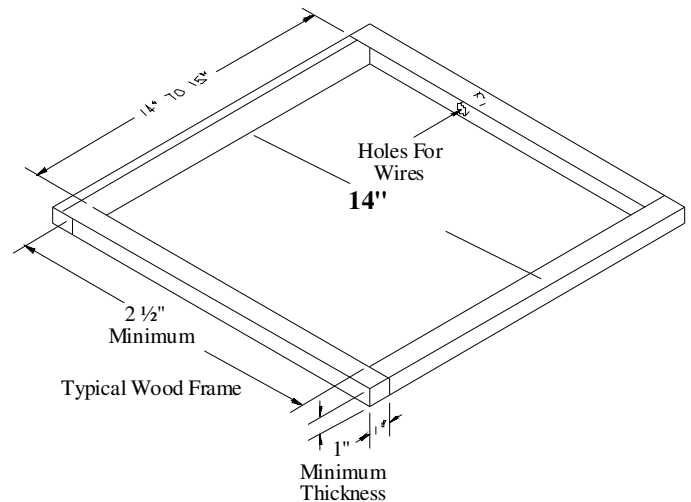

FIGURE 1
3. Examine the roof opening. If the opening is smaller than 14” x 14”, the opening must be enlarged. If the opening exceeds 15” x 15”, a mounting frame must be field fabricated to reduce the opening size (See Figure 1).
- B. If a roof vent opening is not used, a new opening (See Figure 1) will have to be cut into the vehicle roof. A matching opening will also have to be cut into the interior vehicle ceiling. Be careful when cutting the ceiling opening. If the ceiling opening is carpeted, snagging could occur. After the opening in the roof and interior ceiling are the correct size, a framed support structure must be provided between exterior roof top and interior ceiling. The reinforced framed structure must provide the following guidelines:
The 47000 series Coleman-Mach 8 air conditioner requires that the spacing from the vehicle roof top to the interior ceiling be no less than 1”. A typical support frame is shown in Figure 1.